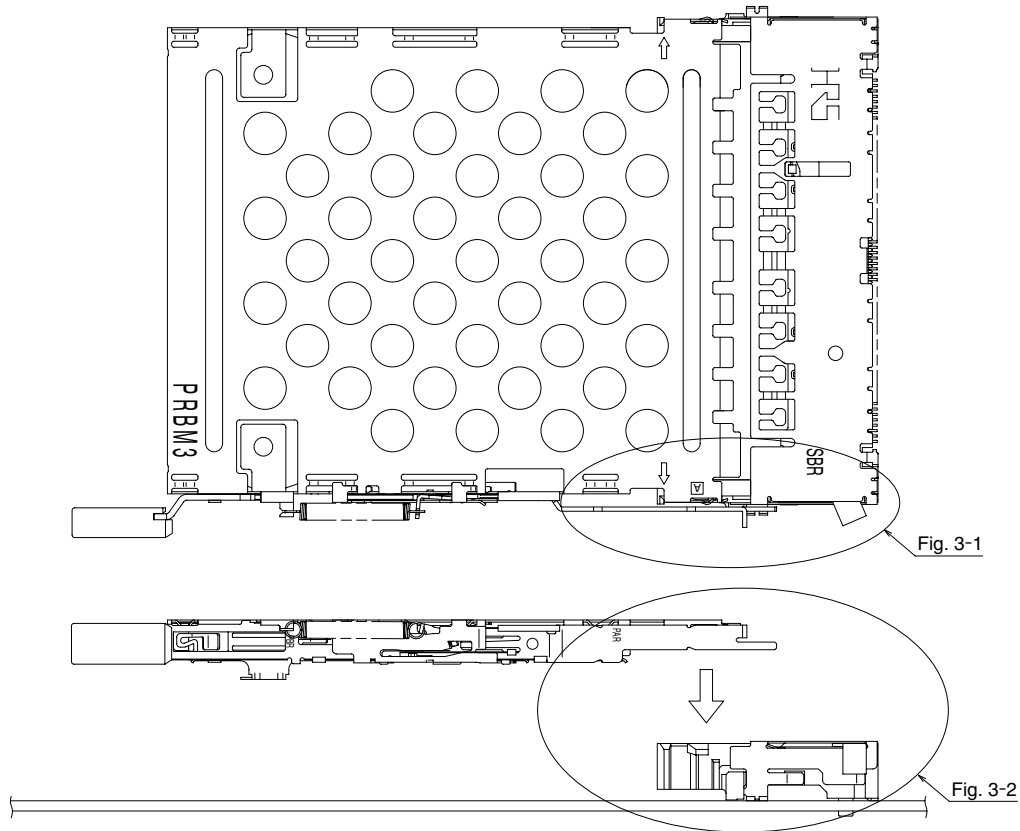

Fig. 3
- (2) Align both arrow marks (stamped on the shield plate) on the Guide unit with the corresponding grooves on the (mounted on the board) SMT unit (as illustrated of Fig. 3 and 3-1).
Note 1: As illustrated in the enlarged view of Fig. 3, the lock is released by deflecting the insulator approximately 0.5 mm.
Fig. 3 detail A - enlarged view